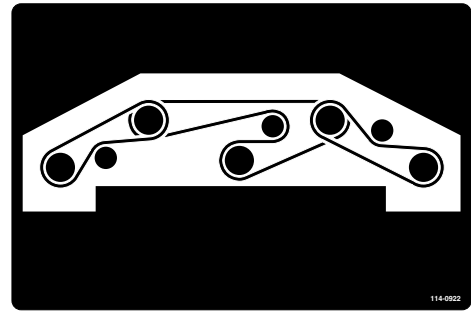

**Figure 115**
5. Remove the bolts securing the hydraulic motor to the mower deck (Figure 115).
3. Remove the bolts securing the hydraulic motor to the mower deck (Figure 115).